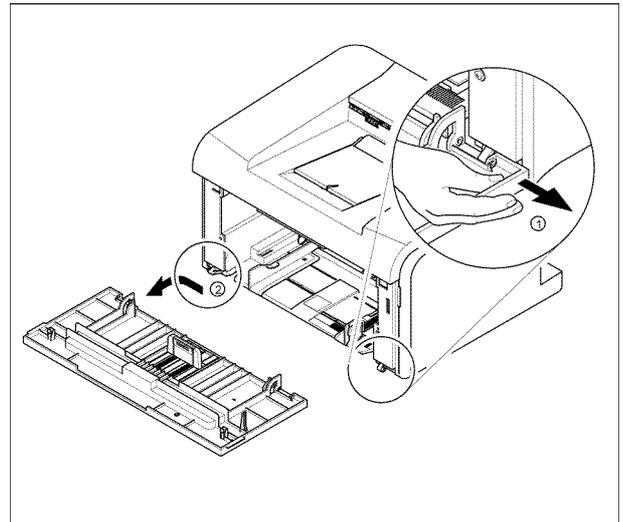

Figure 2
2. Gently flex the right hinge of the front cover in the direction of the arrow, then remove the front cover, Figure 2.